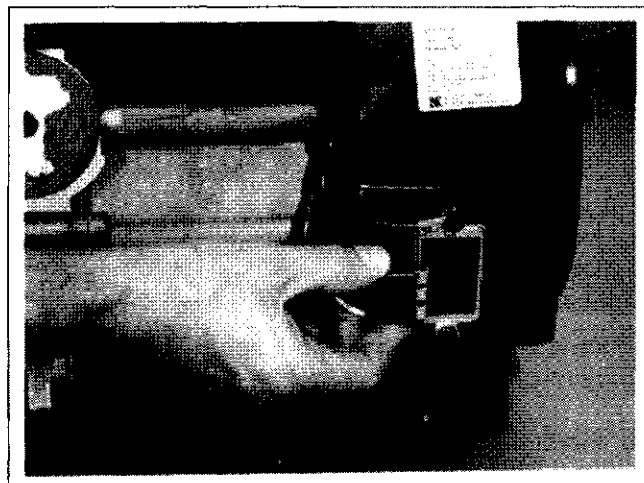

Figure 9-24. Disconnecting Plug from Rectifier-Regulator.
1. Disconnect the plug from the rectifier-regulator on blower housing. See Figure 9-24.